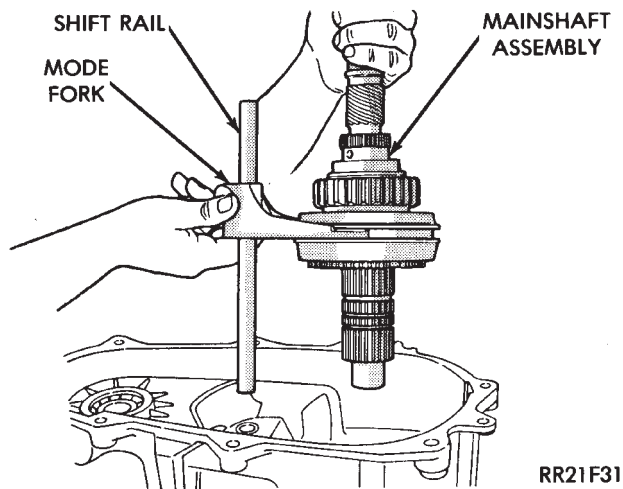

Fig. 11 Removing Mainshaft, Mode Fork And Shift Rail
(22) Remove mainshaft, mode fork and shift rail as assembly (Fig. 11).